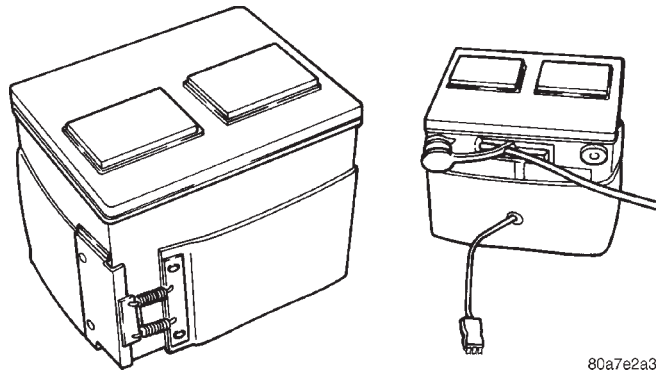

Fig. 12 Battery with Blanket Heater
(2) Disconnect battery negative cable from remote negative terminal on left shock tower.
(3) Turn steering wheel to the **FULL LEFT** position.
(4) Twist the four plastic screws one quarter turn to release shield.
(5) Remove shield.
(6) Disconnect battery blanket heater cord, if equipped (Fig. 12).
(7) Remove battery negative cable followed by the battery positive cable.
(8) Remove bolt attaching the battery strap to the battery hold down bracket. Remove hold down bracket bolt.
(9) Slide battery to rear of tray and lift over lip. Use care not to tip battery so that the acid will not spill out.
(10) Remove battery.
(11) Remove battery blanket heater if equipped (Fig. 12).